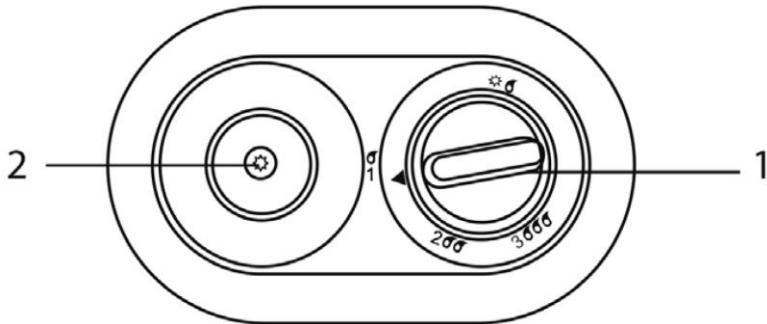

Fig. 8
2. Press and gently turn the gas adjustment knob on the control panel to the **(1σ)** position (Fig. 8). Continue to hold down the gas adjustment knob for 20-30 seconds. Press the piezo ignition button several times at a time until the gas burner lights up. Each time you press the piezo ignition button, you can hear a loud click and see a spark on the piezo ignition electrode. Continue to hold the gas adjustment knob pressed for 10-15 seconds from the moment the ignition torch ignites to activate the flame detector.